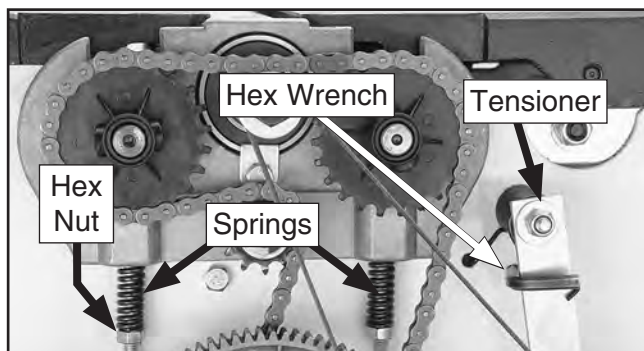

Figure 73. Location of adjustments nuts (front panel removed for access).
3. Move the chain tensioner away from the chain and place a 5mm hex wrench into the hole in the frame, as shown in **Figure 73**, to hold the tensioner and de-tension the chain.
4. Locate the hex nuts and springs on both sides of the feed rollers, as shown in **Figure 73**.
4. Move the chain tensioner away from the chain and place a 5mm hex wrench into the hole in the frame, as shown in **Figure 73** on **Page 46**, to hold the chain tensioner and keep the chain detensioned.
6. Remove the hex nuts and springs (see **Figure 73** on **Page 46**) from both sides of the front and rear feed rollers.